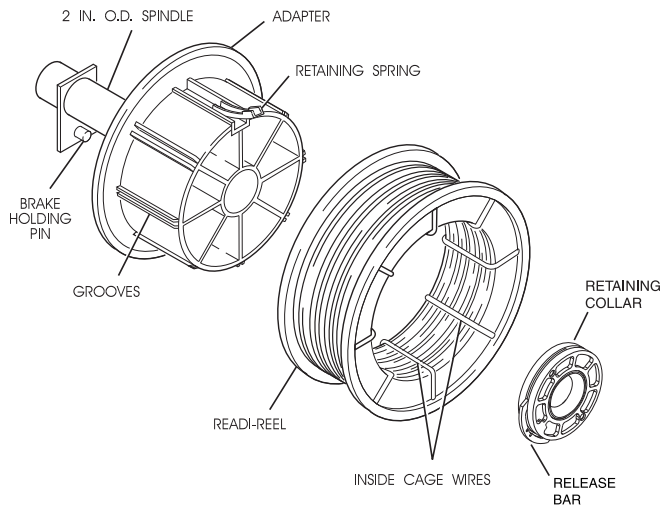

FIGURE B.1
- 1) Depress the Release Bar on the Retaining Collar and remove it from the spindle. See Figure B.1.